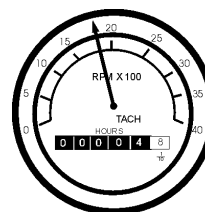

Figure 28. Engine Tachometer
16. The tachometer (Figure 28) will indicate the speed of the engine when the generator is operating. Under normal operating conditions this speed is approximately 1800 RPM's.